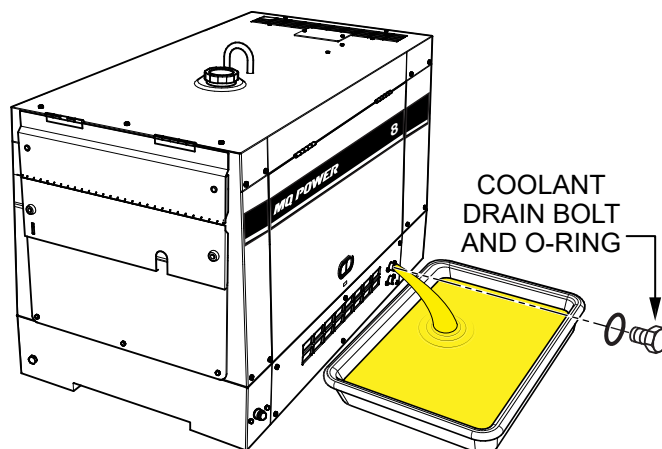

Figure 53. Draining Engine Coolant
2. Remove the **coolant drain bolt and O-ring** (Figure 53) and allow the coolant to drain into a suitable container.